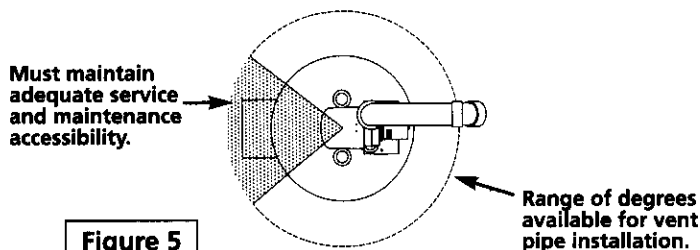

Figure 5
- The location selection must provide clearances for servicing and proper operation of the water heater. Figure 5, page 12.
- The location selection must provide clearances for servicing and proper operation of the water heater. Figure 5.